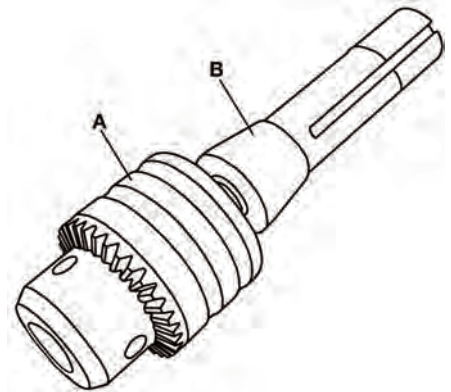

FIGURE 5
- 1) Fully open the chuck jaws by turning the body of the chuck (A) Fig.5 counterclockwise. Position the chuck on a solid surface with its jaws facing downwards.
- 2) Insert the arbor (B) into the chuck and lightly tap the arbor with a rubber hammer. This installation is semi-permanent. If you wish a permanent installation, freeze the arbor for 15 minutes before following the above installation. The arbor will expand as the arbor regains temperature, permanently locking the chuck.